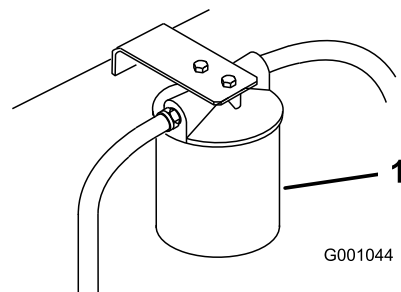

Figure 66
3. Place drain pan under filter, remove the old filter and wipe the filter adapter gasket surface clean (Figure 66).